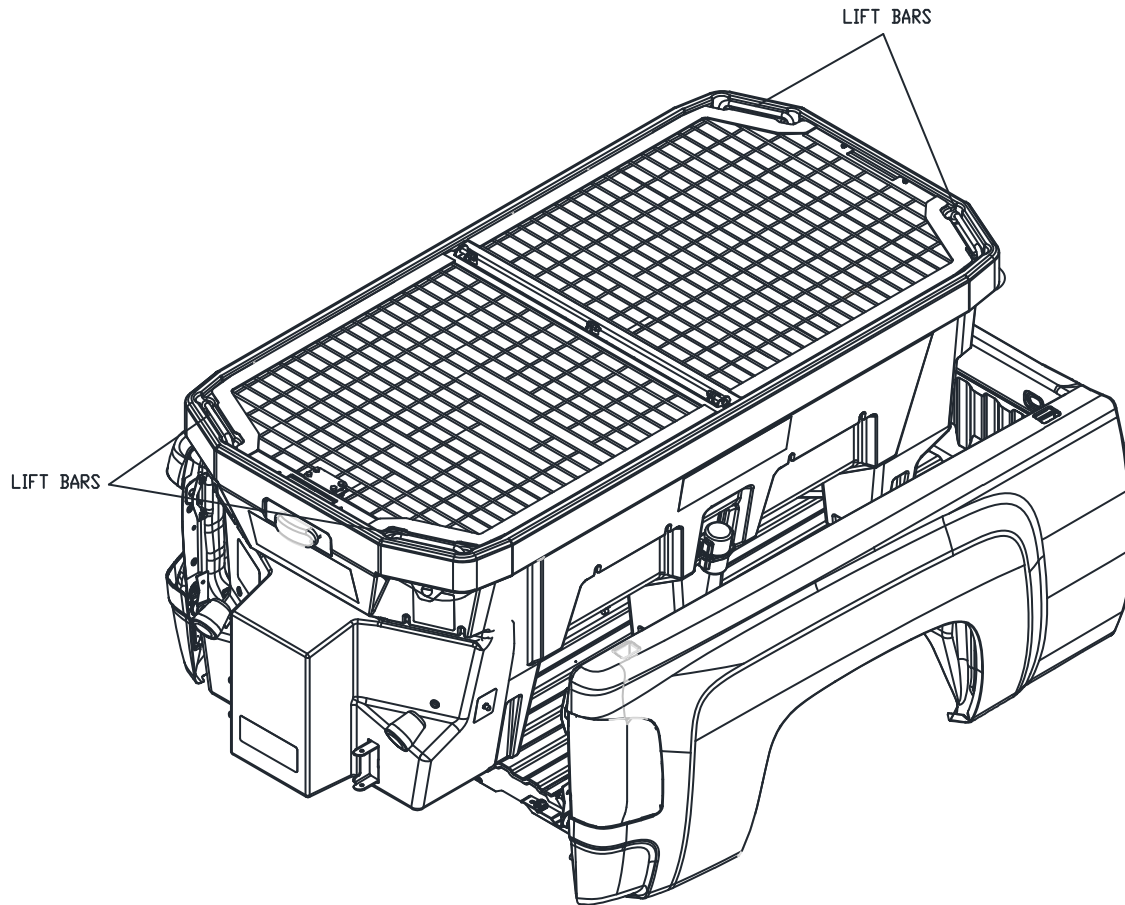

Figure 6. Recommended Lifting Points
2. Using installed Lift Bars, lift and set spreader on the centerline of the truck bed as shown in Figure 6.